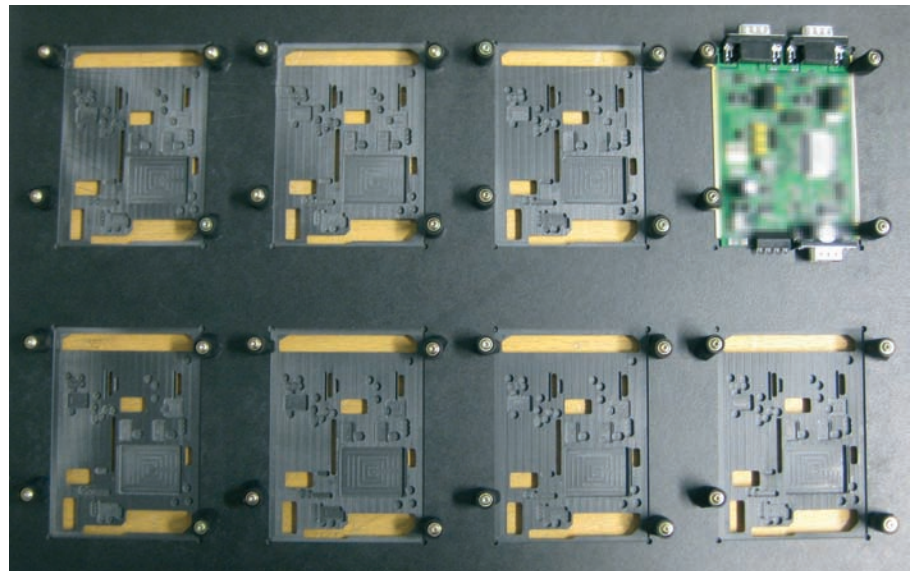

Fig.2 CRS soldering frame
- ✓ The placement of the PCB's is easy and accurate (Fig.2)